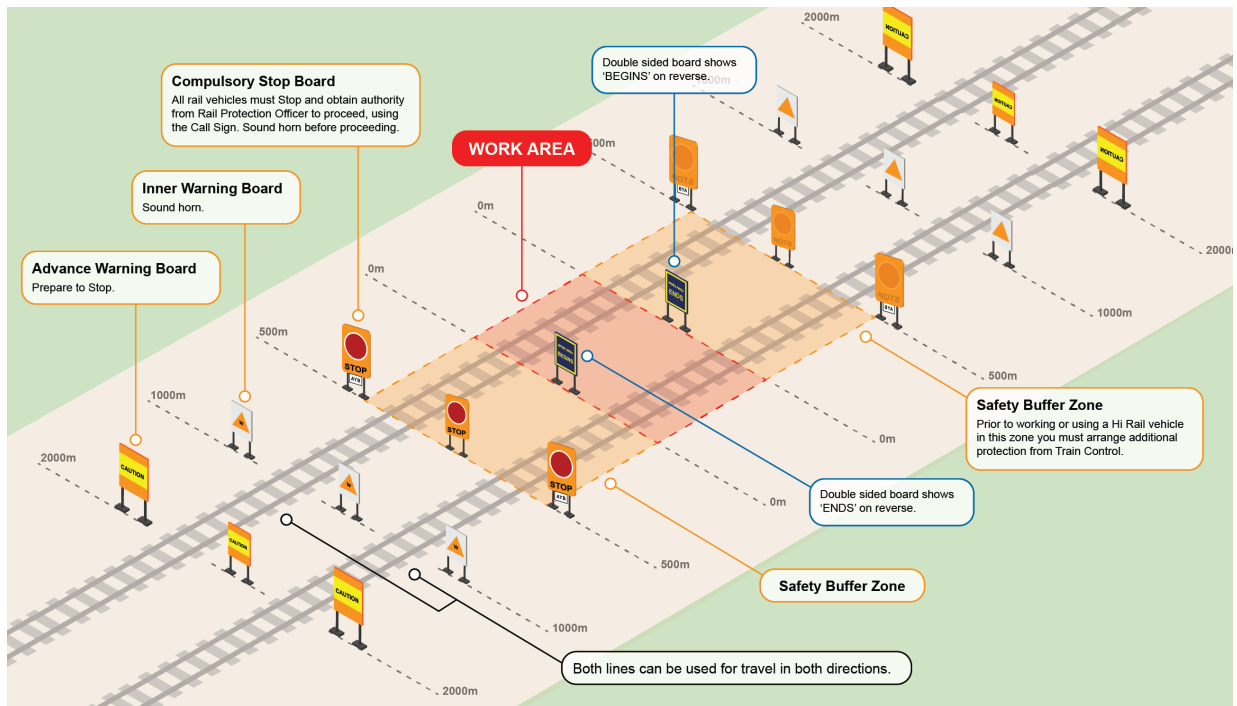

Figure 3: Multi-Line Areas - Protection for Work Obstructing Both Mains
- b. the work area ends side is seen from inside the work area (see Figure 3)